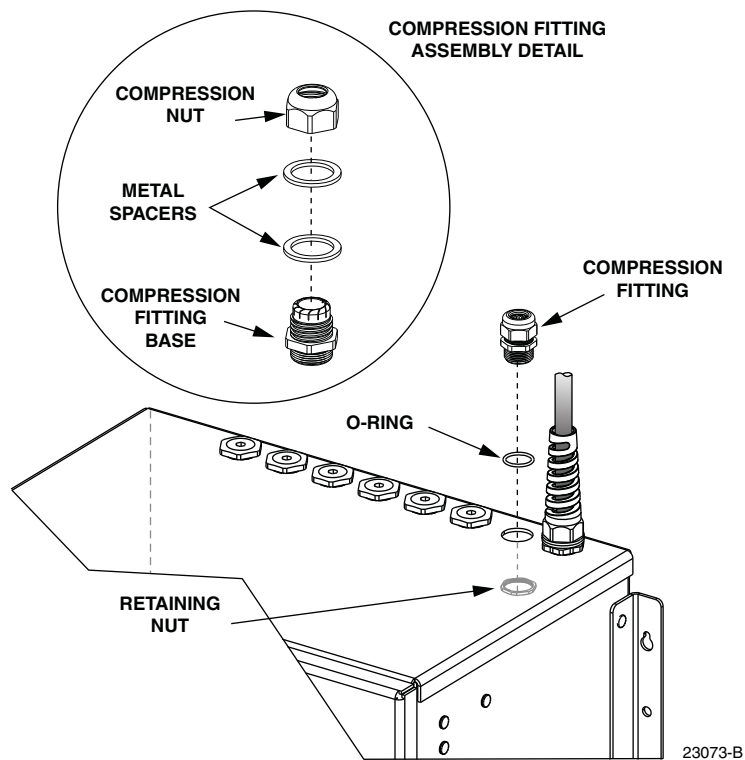

Figure 45. Distribution Cable Compression Fitting
4. Locate the distribution cable compression fitting that is shipped with the cabinet and loosely assemble the fitting as shown in Figure 45.
- **Note:** Two metal spacers are installed on the compression fitting (see Figure 45) to prevent the compression nut from being overtightened.